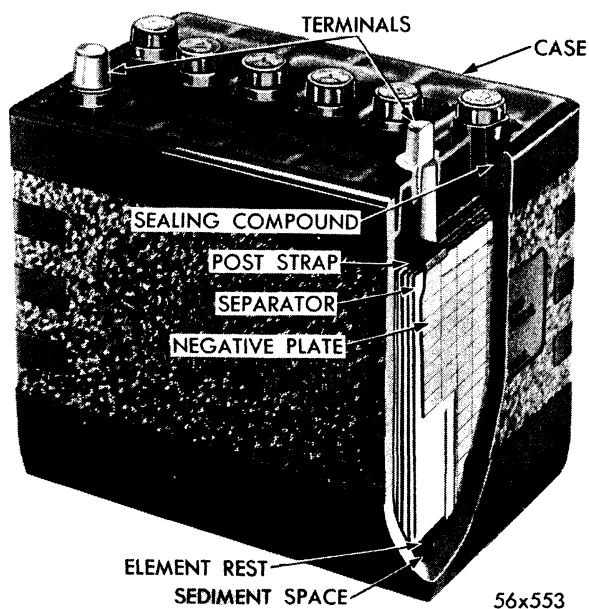

Fig. 1—Typical 12 Volt Battery (Cutaway View)
1. TESTING THE 12-VOLT BATTERY (FIG. 1)